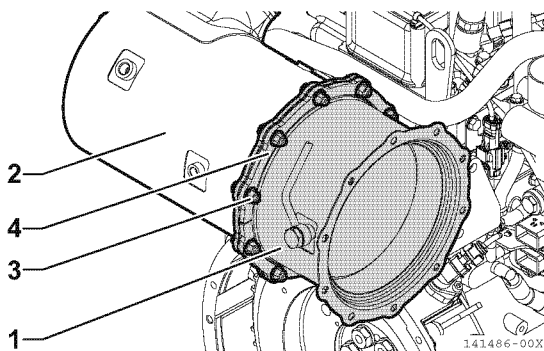

Figure 13-12
- Remove the M8 bolts and flange nuts (3, Figure 13-12) (8 or 10 of each) that fix the SF case (1, Figure 13-12) and DOC case (2, Figure 13-12).
- Remove the stiffeners (4 pcs.) (2 pcs. on each side) (4, Figure 13-12) that hold the mating surface of the SF case and DOC case flange, and remove the SF and SF case as a unit. Mark the stiffeners so that they can be reassembled in the original position.